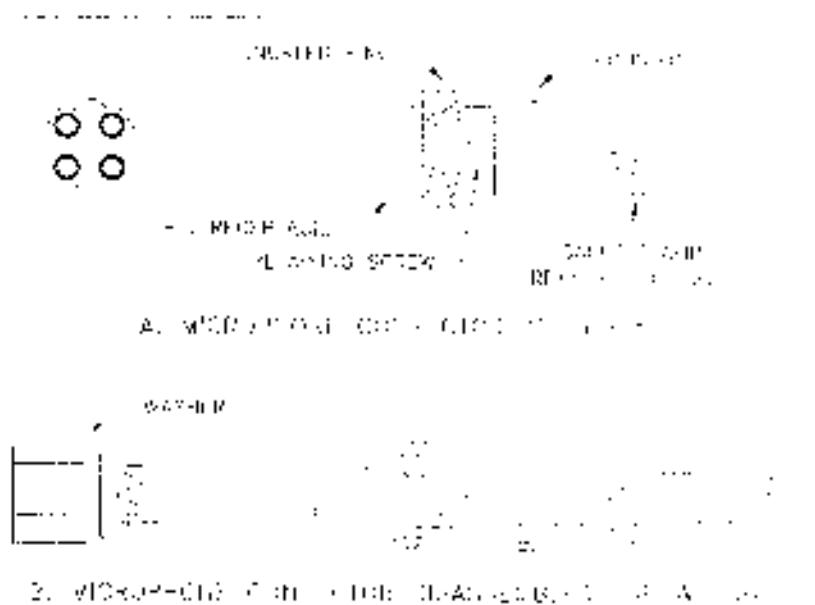
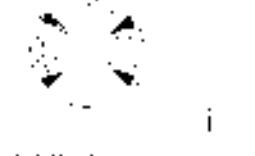

Fig. 2 Microphone plug wiring
Fig. 3 Microphone plug pin numbers viewed from rear of pin receptacle.
4. Feed the microphone cable through the housing, knurled ring and washer as shown Fig. 2. The wires must now be soldered to the pins as indicated in the above wiring tables. If a vise or clamping tool is available it should be used to hold the pin receptacle body during the soldering operation so that both hands are free to perform the soldering. If a vise or clamping tool is not available, the pin receptacle body can be held in a stationary position by inserting it into the microphone jack of the front panel. The numbers of the pins of the microphone plug are shown in Fig. 3, as viewed from the back of the plug. Before soldering the wire to the pins, pre-tin the wire receptacle of each pin of the plug.
Be sure that the housing and the knurled ring of Fig. 2 are pushed back onto the microphone cable before starting to solder. If the washer is not captive to the pin receptacle body, make sure that it is placed on the threaded portion of the pin receptacle body before soldering.